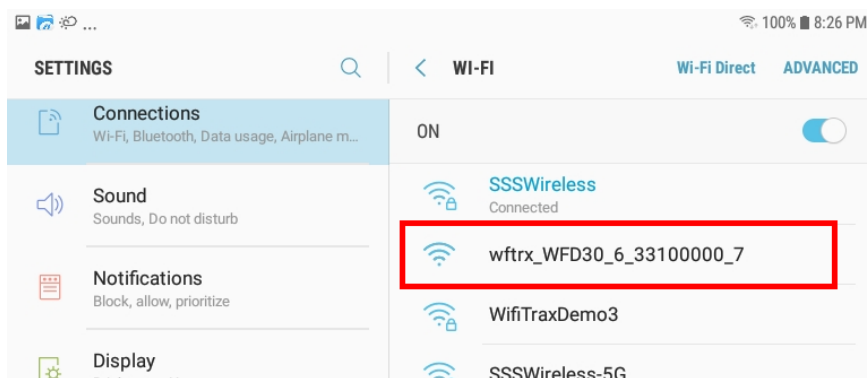
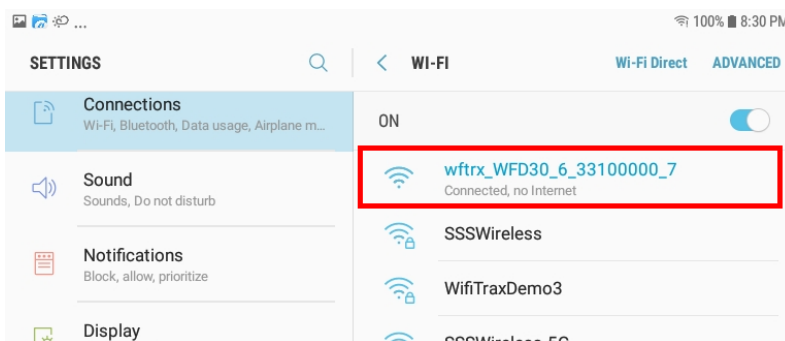

Figure 18 WFD-30/31 Wi-Fi Access Point is visible
Figure 19 Connected to the WFD-30/31 Wi-Fi Access Point
- (6) You now see a collection of available Wi-Fi Access Points. Look for one that is of the form wftrx\_WFD30\_1\_XXXXXXX\_7 or wftrx\_WFD31\_1\_XXXXXXX\_7, where XXXXXXXX is the serial number of your unit that appears on its bag and the unit itself, like Figure 18 (the “1” may be replaced by “6” or some other number depending on the Wi-Fi channel). Tap that Wi-Fi Access Point – no password is required – and wait for it to connect. You will not be able to access the internet while you are connected to the Wi-Fi access point of the WFD-30/31. After a few moments the Access point should show “Connected, no internet” as Figure 19.